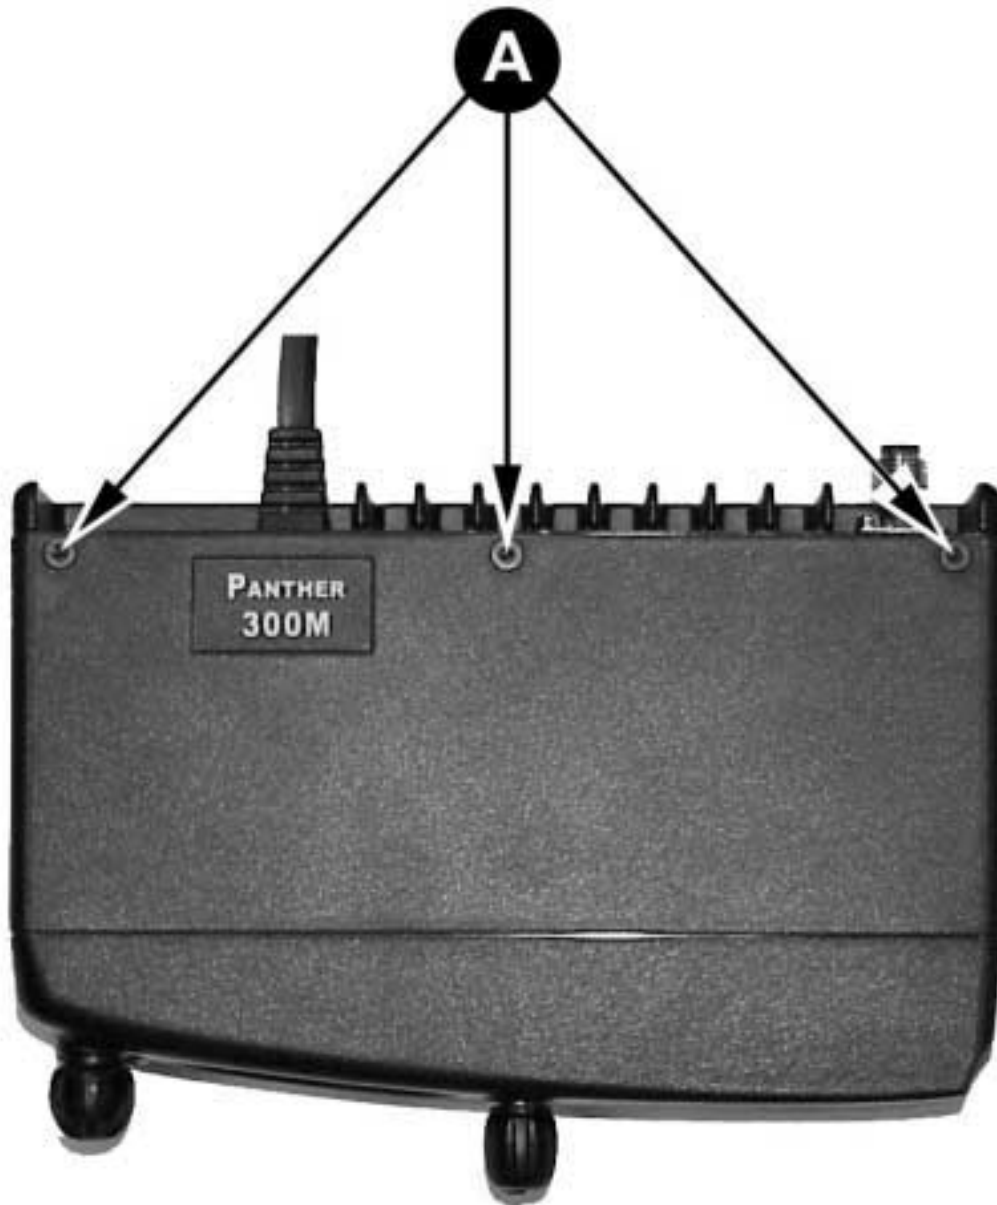

Figure 2 – Removing Top Cover
1. The top cover is secured with three screws from the bottom of the radio. Using a No. 10 Torx® driver, loosen the three screws  on the top of the radio as shown in Figure 2.